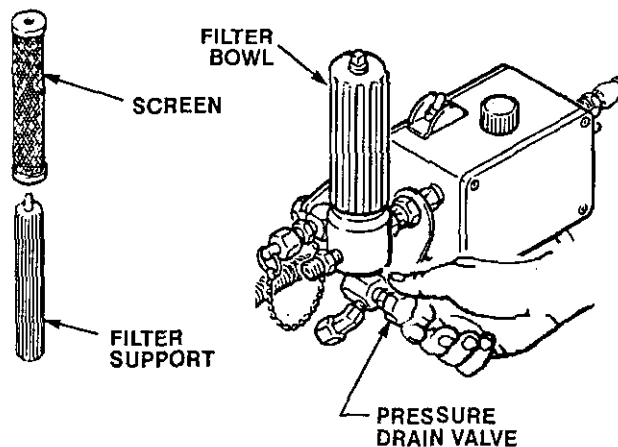

Fig 11-1
2. Remove the filter bowl and screen; see manual 307-273. Clean the screen separately and install the bowl without the screen to flush it. See Fig 11-1.